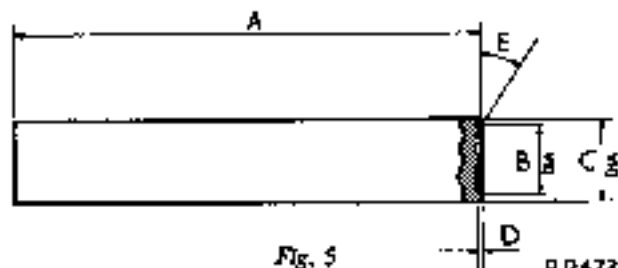

Fig. 5
- (1) Remove the air pump.
- (2) Remove the pump pulley.
- (3) Pass a 1/2-in. diameter soft metal drift through the pump discharge connection so that it registers against the relief valve, and drive the valve from the pump.
- (4) Fit a new copper seating washer in the new relief valve and enter the valve into the pump body.
- (5) Using a tool made to the dimensions shown in Fig. 5, drive the valve into the pump until the copper seating washer is held firmly, but not compressed, between the valve and the pump.
- (6) Refit the pulley and refit the air pump.